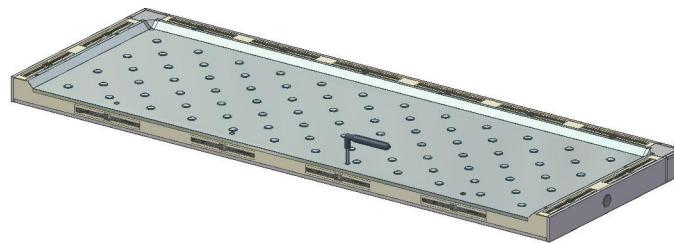

Fig. 2
- At first you must assemble the **bottom panels** (Fig. 2);